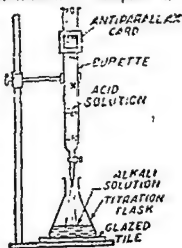

Fig. 18'1.
1. **Problems based on Volumetric Analysis.**—All volumetric experiments are based on one chemical reaction or the other. The reactants are taken in the form of solutions and made to react. A known volume of one solution is measured with a pipette and taken in a conical flask. The other solution is taken in a burette (Fig. 18'1) and run into the first solution till the chemical reaction is just complete. The volume of the second solution is read from the burette and the two volumes are compared.